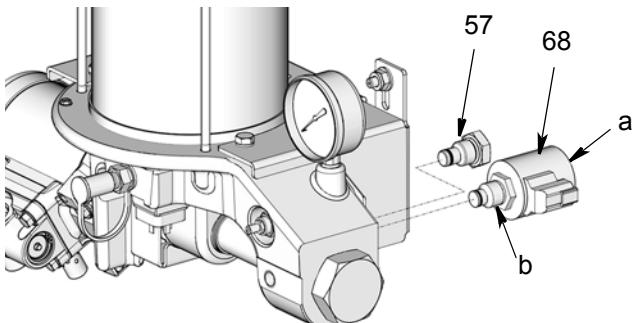

FIG. 5
3. Remove plug (57) from pump base (2) (FIG. 5).
4. Install valve cartridge (68) in pump base (FIG. 5). Torque coil nut (a) to 4 to 5 ft-lbs (5.42 to 6.78 N·m). Torque cartridge nut (b) to 16 to 20 ft-lbs (21.69 to 27.12 N·m).